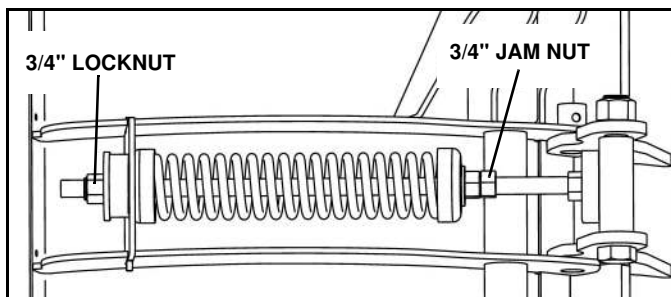

Figure 2-10
15. Tighten the 3/4" jam nut against the adjustment nut to secure the 14" spring cup spacing. (See Figure 2-10)